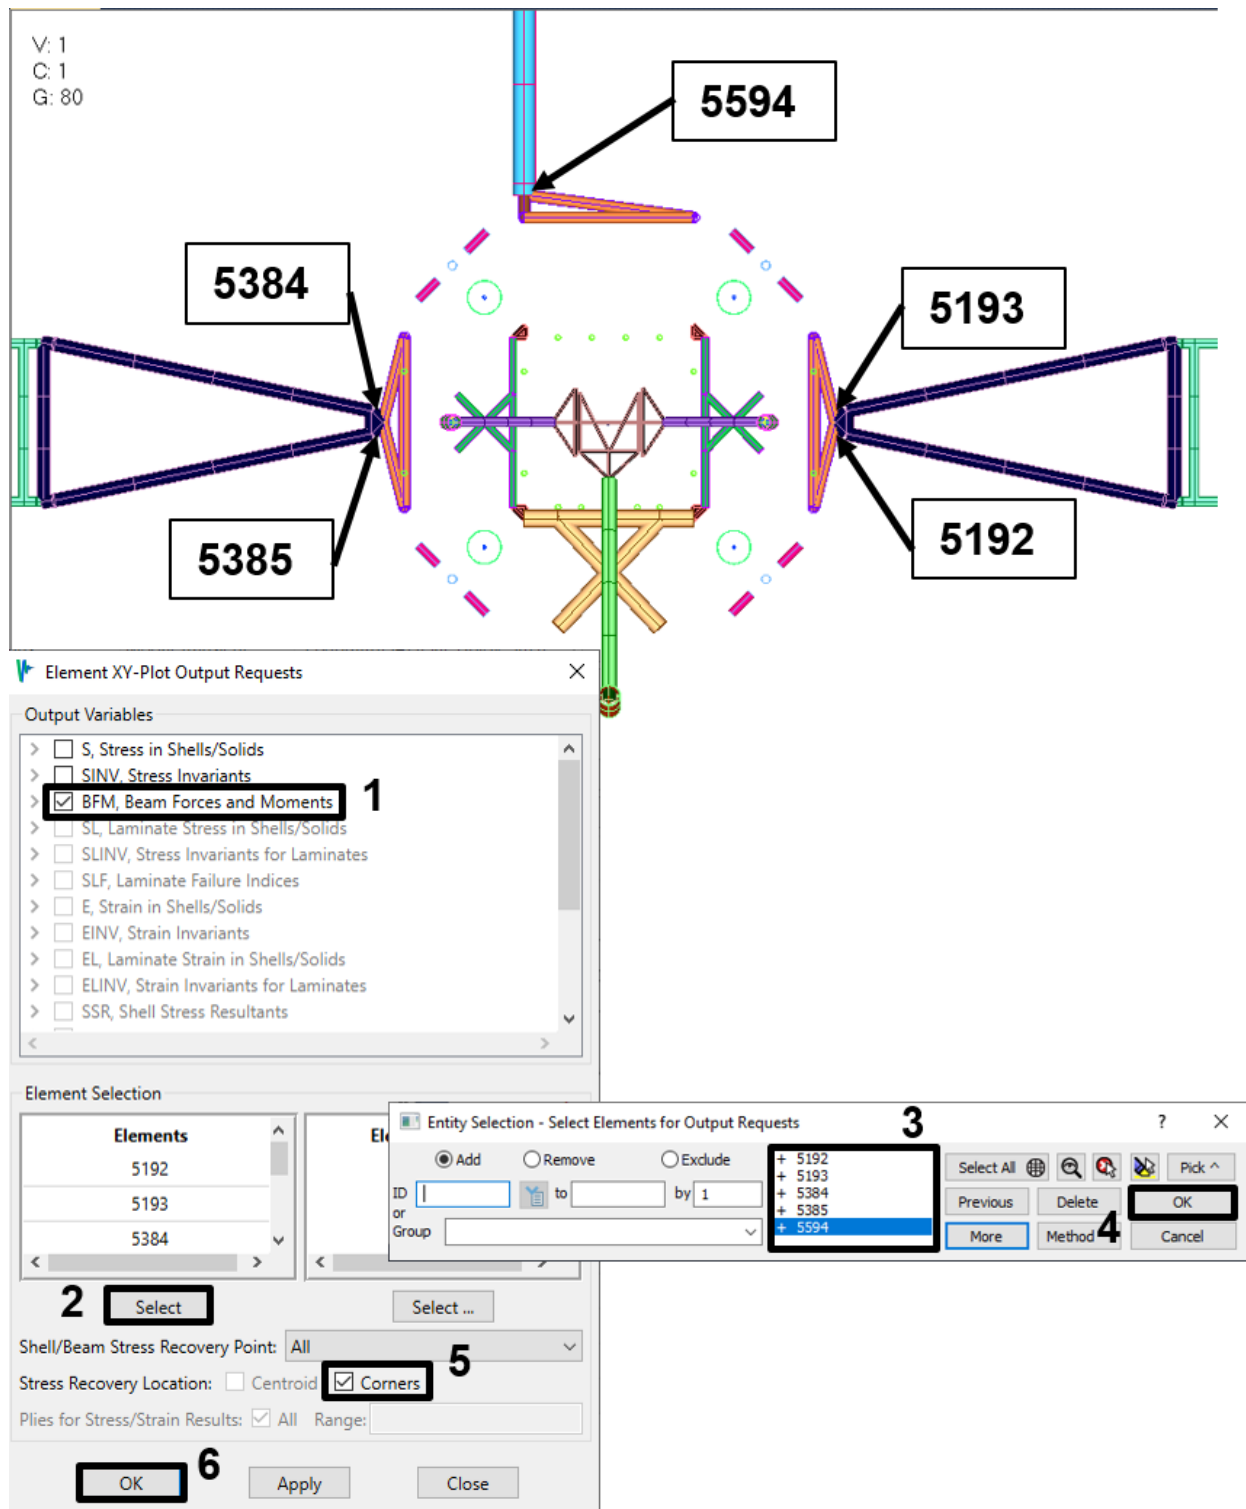

Figure 4-108. Request beam forces in elements that attach appendages to bus.
12. Now we want to be sure that the solar arrays and instrument package do not fall off due to these thruster firings, so create Element XY output requests for beam forces and moments in the elements that attach them to the spacecraft bus. Note that the Stress Recovery Location text is active, and Corners are checked but grayed out. For BFM results, you must request Corner output since BFM results are not available on the Centroid. (Figure 4-108).